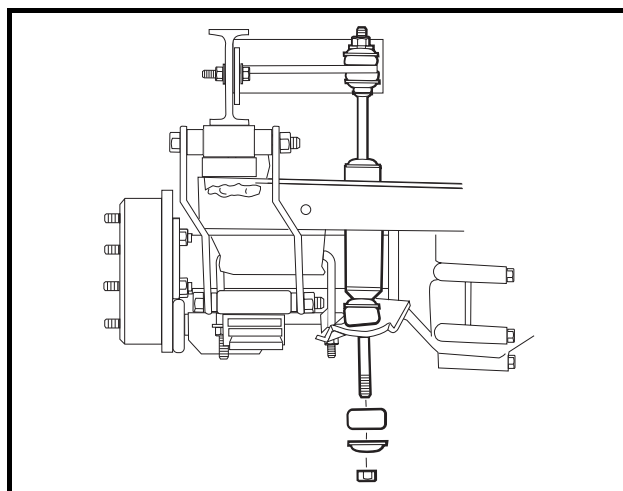

Figure 28-8 Disconnect Shocks
5. Disconnect the shock absorbers from their lower mounts (**Figure 28-8, Page 28-5**).